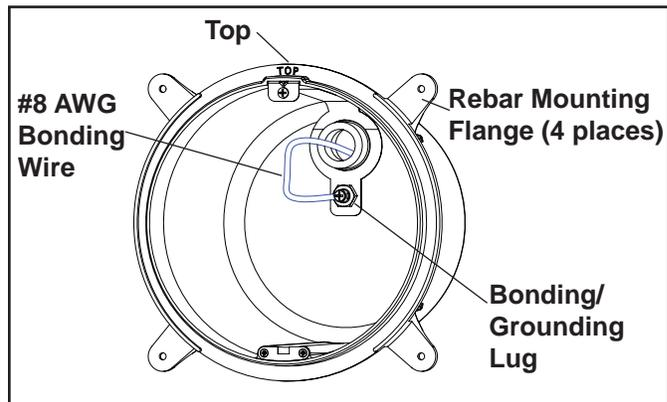

Figure 3. Plastic Niche Bonding Wire Installation
- e. If nonmetallic conduit is used, a #8 AWG bonding wire is required to run through conduit from the junction box to the bonding/grounding lug inside of niche. Seal the wire/lug connection with a listed sealant. See Figure 3.